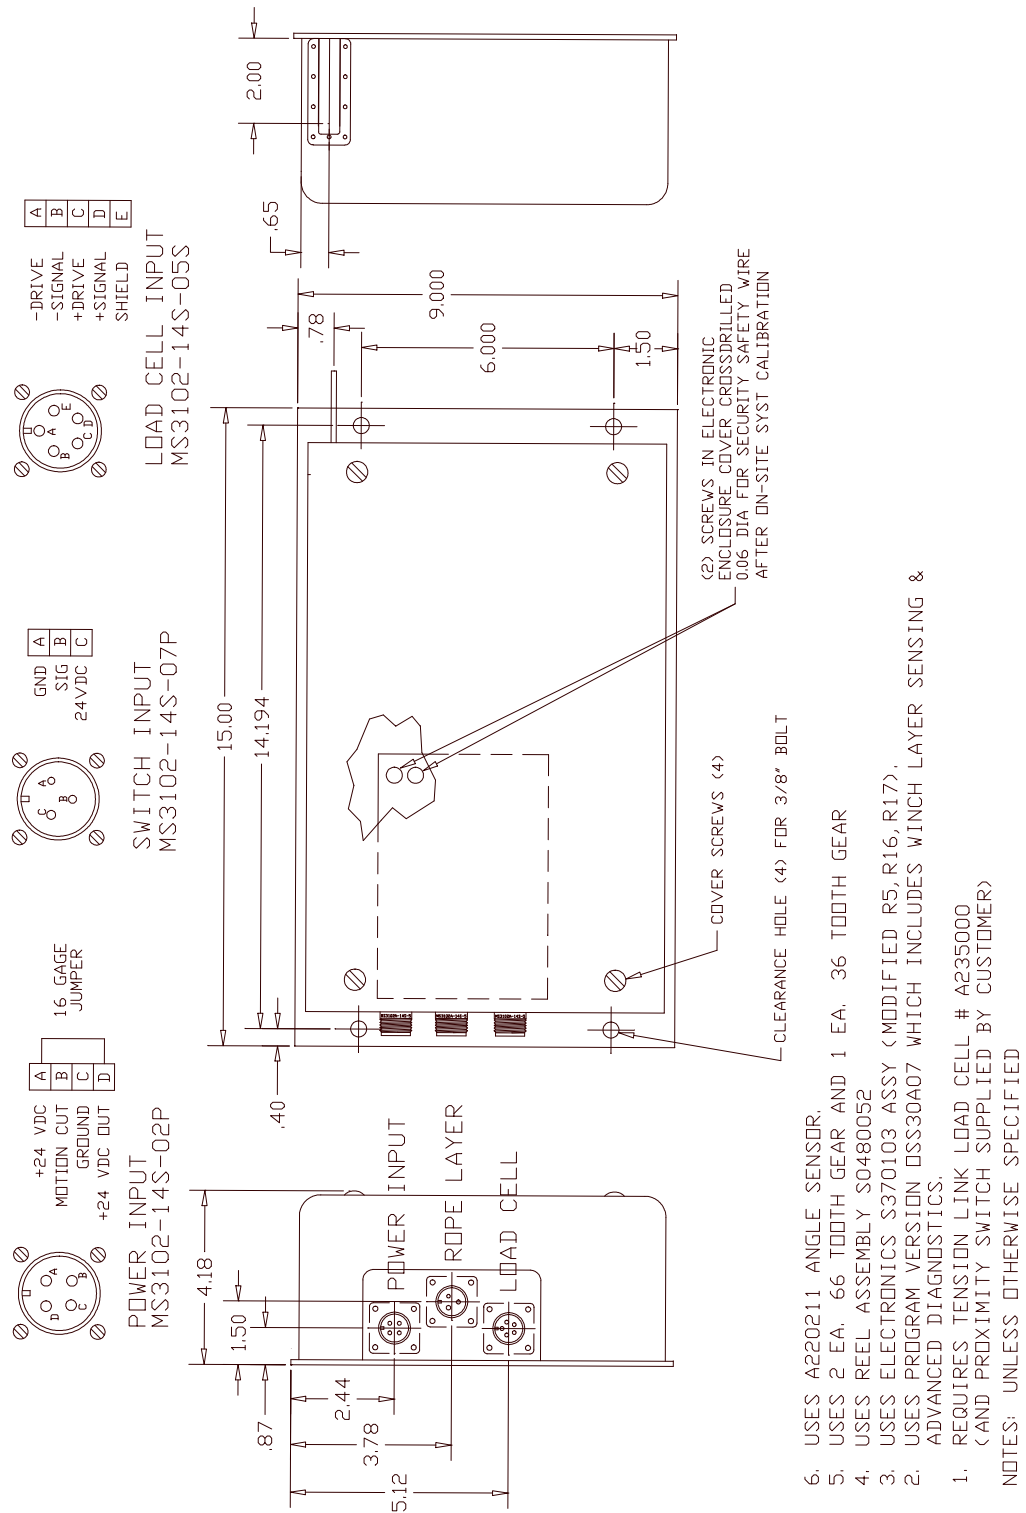

FIGURE 2: OSS-463E UNIT - INSTALLATION (A3)
| FIGURE 2 OSS-463E - INSTALLATION | 5 |
Refer to Figures 2 through 5.
1. Remove and set aside the four 1/4-20 truss head screws with special washer from the cover of the **OSS-463E Unit** (Figure 2). Grasp both ends of the cover and pull it straight out from the base.